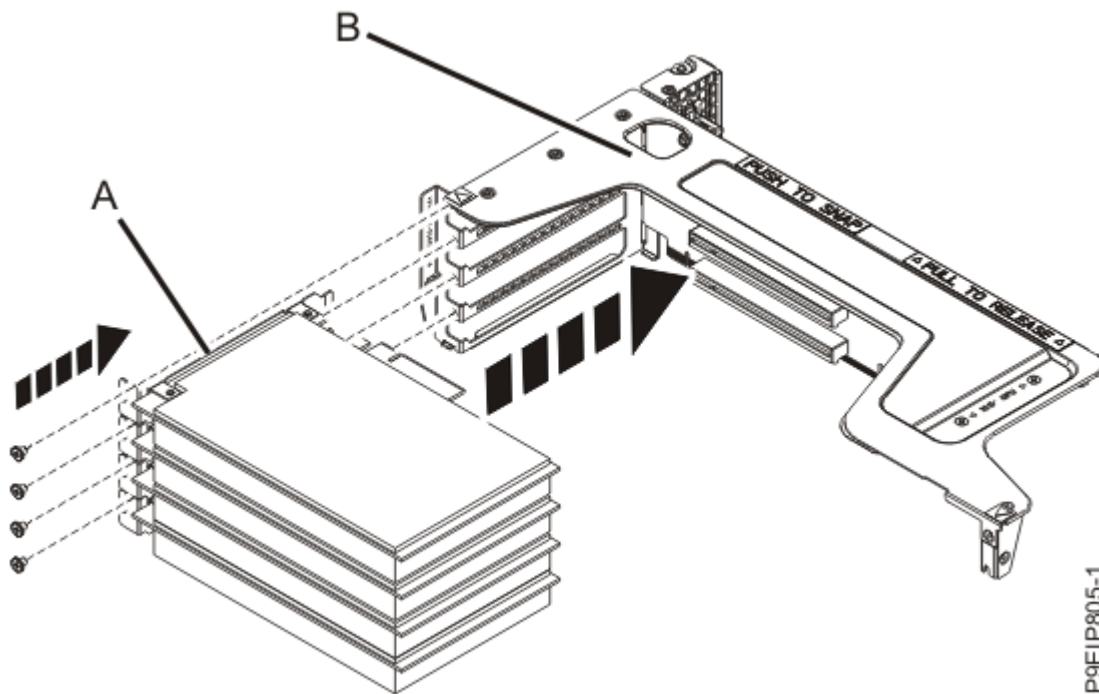

Figure 31. Inserting a PCIe adapter into the riser
- a) Plug the adapter **(A)** into the proper slot in the PCIe adapter riser **(B)** as shown in Figure 31 on page 32.